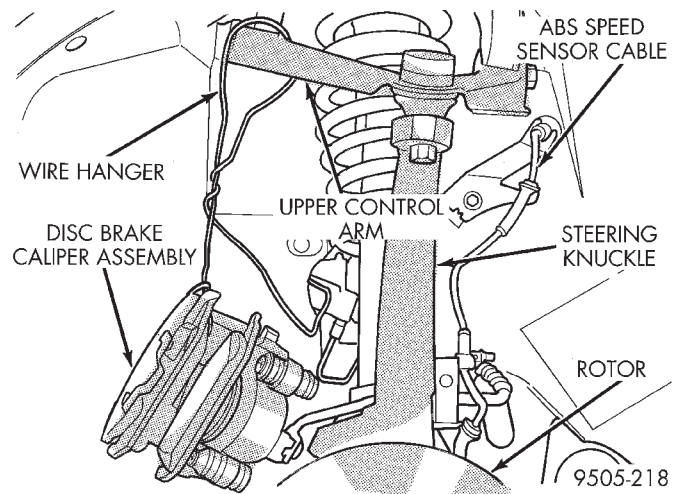

Fig. 65 Supporting Brake Caliper
(5) Support brake caliper/adaptor assembly using a wire hook and not by hydraulic hose (Fig. 65).